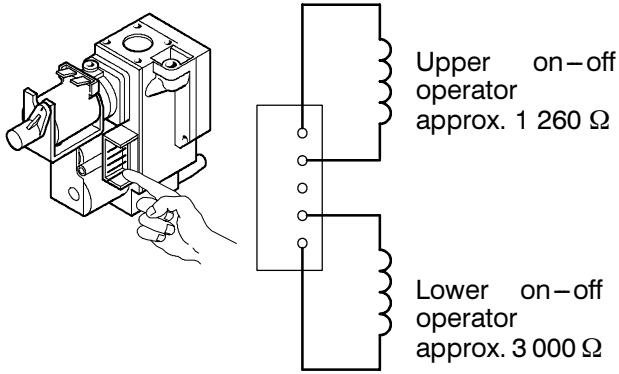

fig. 54
- 3 Measure the electrical resistance between the leads of the on-off operators as illustrated in fig. 54.